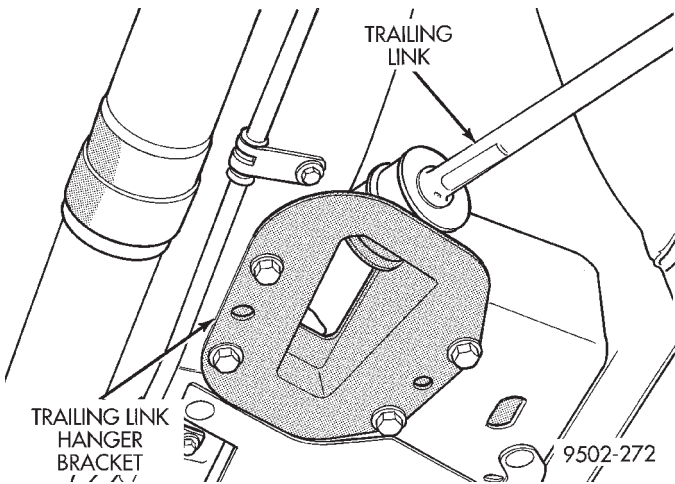

Fig. 48 Trailing Link Hanger Bracket Attachment To Vehicle
(4) Remove the 4 bolts (Fig. 48) attaching the trailing link hanger bracket to the floor pan and frame rail.